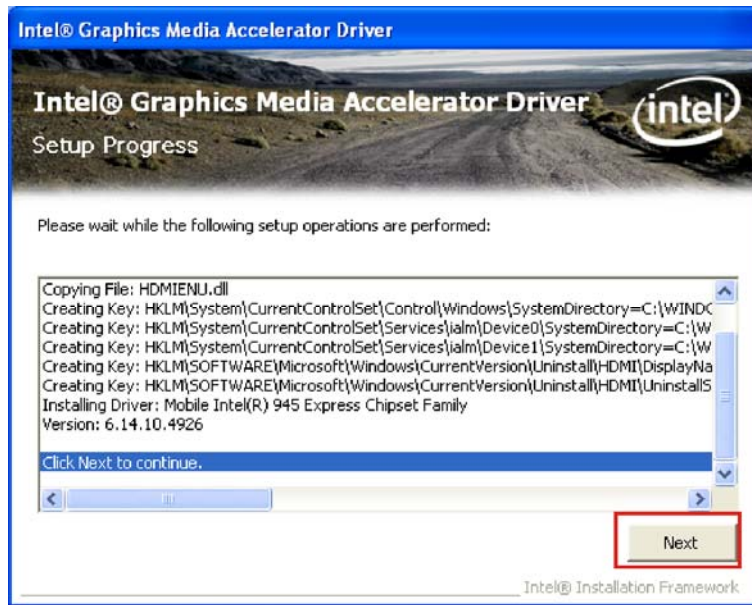

Figure 6-15: VGA Driver Setup Operations
Step 15: Setup Operations are performed as shown in **Figure 6-15**.